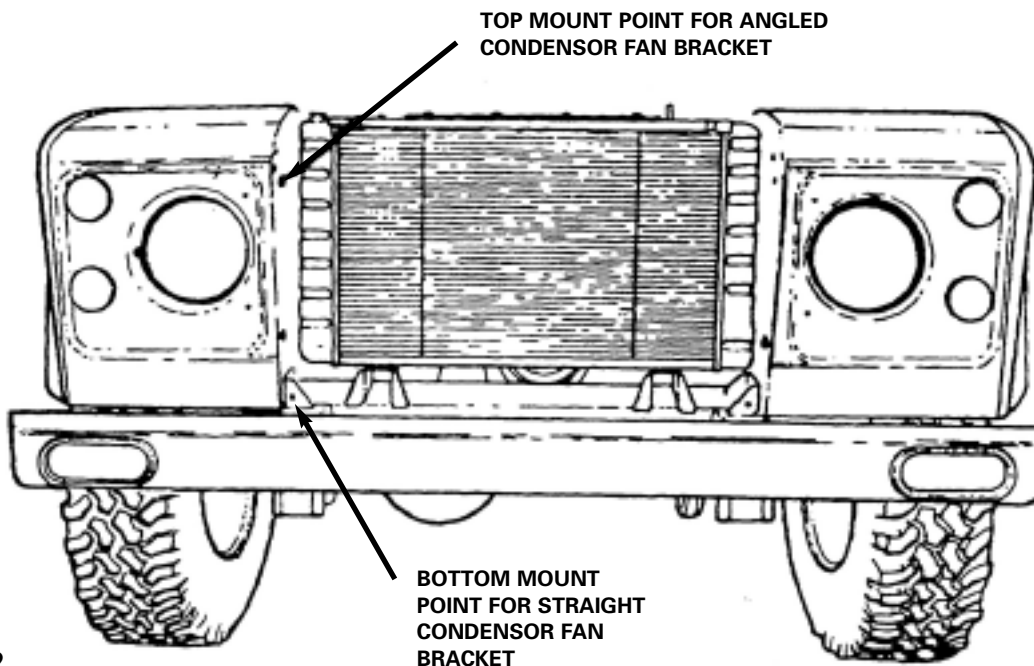

FIGURE 2
3. Remove the front panel. (See Figure 2)
4. Remove "A" Frame support assembly. (See Figure 2)
25. The Condensor Fan is pre-assembled in a frame that fits at the bottom to the "A" bar fixing points on the chassis rail and to grill panel fix points on both wings as shown in Figure 2. Re-fit the "A" bars over the condensor fan assembly of the radiator with the condensor fan facing forward with straight mounts on the bottom and angled mounts on top. (See Figure 2)